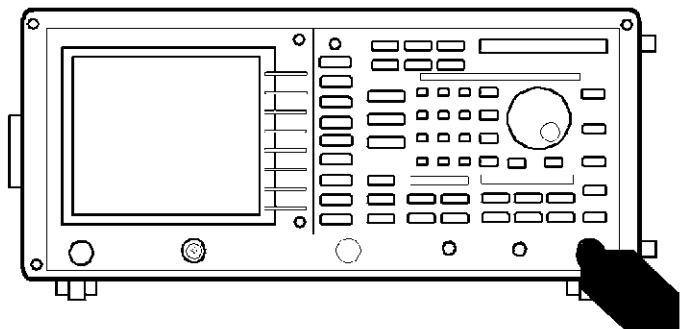

Figure 5-3 Setup of Displayed Average Noise Level Test
1. Connect the terminator to Input of R3132 series as shown Figure 5-3.